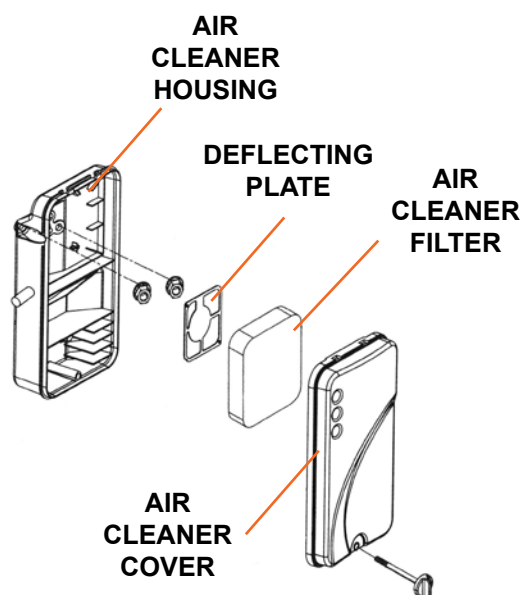

Figure 10
1. Wipe off the air cleaner cover. Loosen the knob at the bottom of the air cleaner housing (see Figure 10).